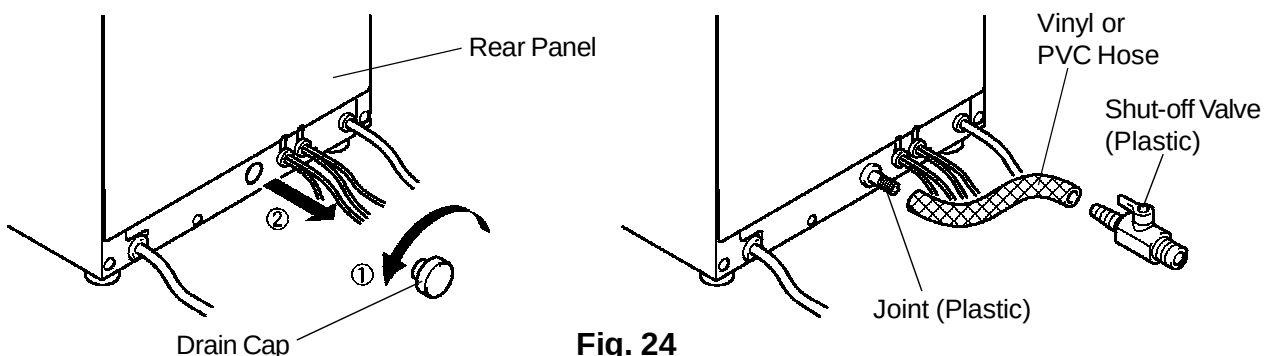

Fig. 24
* Prepare a drain hose with a plastic shut-off valve if water needs to be removed from the unit or water may freeze in the unit in cold areas. Remove the drain cap on the back of the unit and attach the plastic joint, vinyl or PVC hose and plastic shut-off valve. Drain outlet is 3/4" female pipe thread (FPT). See Fig. 24.